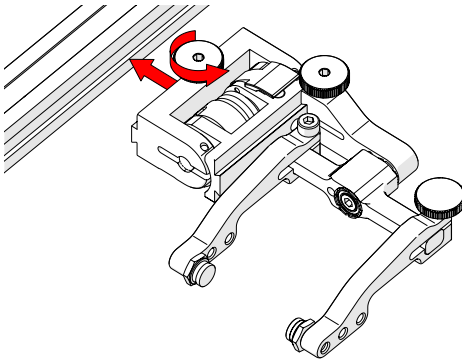

Fig. 167 - Attach to frame bar
1. Rotate the probe holder adjustment knob and attach probe holder to a frame bar (Fig. 167).